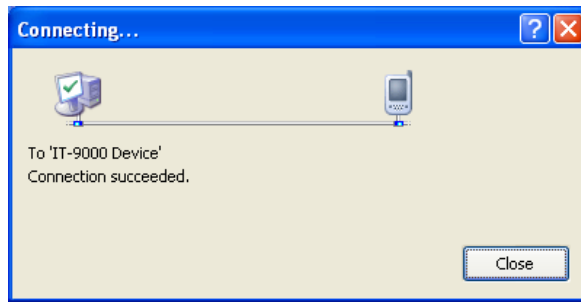

Figure 5.28
9. Choose **IT-9000 Device** in the list of **Devices:** and click **Connect** button. The screen in Figure 5.28 if appear indicates the success of connection establishment.